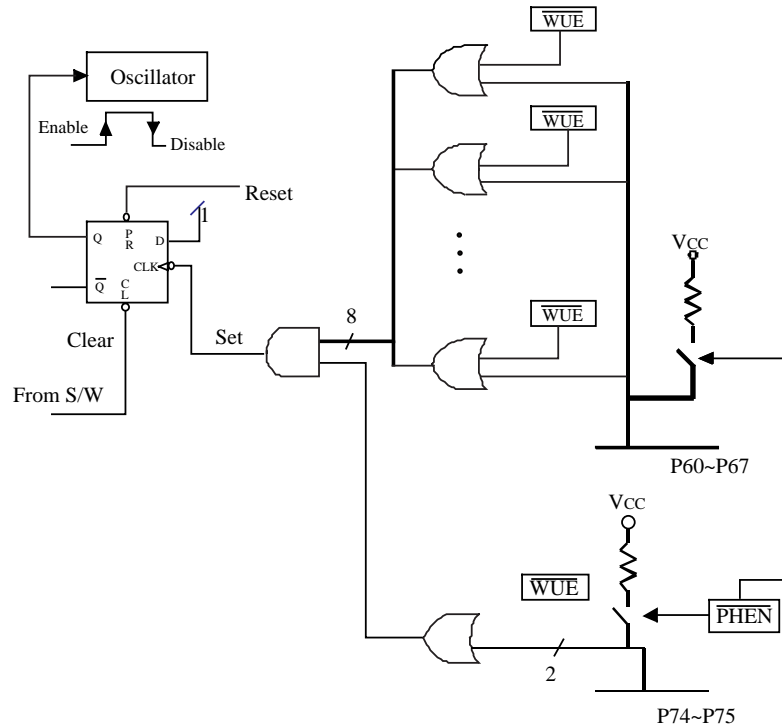

Fig. 5 Block diagram of sleep mode and wake-up circuits on I/O ports
**Bit 4 (SLPC)** This bit is set by hardware at the falling edge of wake-up signal and is cleared by software. SLPC is used to control the operation of oscillator. The oscillator is disabled (oscillator is stopped, the controller enters the SLEEP2 MODE) on high-to-low transition on SLPC bit and is enabled (the controller is awakened from SLEEP2 MODE) on low-to-high transition on SLPC bit. In order to ensure the stable output of the oscillator, once the oscillator is disabled and is enabled again, there is a delay for approximately 18 ms (oscillator start-up timer, OST) before the next instruction of program being executed. The OST is always activated by wake-up from sleep mode whether the Code Option bit WTC is “0” or not. After waking up, the WDT is enabled if Code Option WTC is “1”. The block diagram of SLEEP2 MODE and wake-up caused by input triggered is depicted in Fig. 5.
- (a) input triggered, refer to Fig. 5. When wake-up, the controller will continue to execute program in-line. In this case, before entering SLEEP2 MODE, the wake-up function of the trigger sources (P60~P67, and P74~P75) should be selected (e.g. input pin) and enabled (e.g. pull-high, wake-up control). One caution should be noted is that after waking up, the WDT is enabled if Code Option bit WTC is “1”. The WDT operation (to be enabled or disabled) should be appropriately controlled by software after waking up.